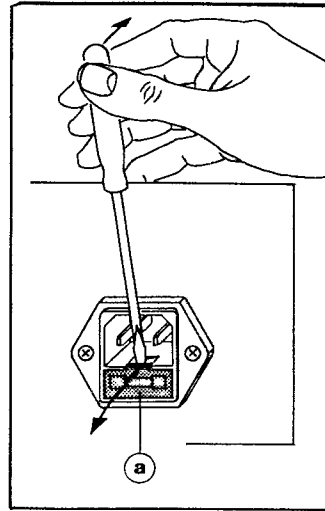

Fig. 7.1
- Take out insert ① (with holder for primary fuse ② and replacement fuse ③) using a suitable screw-driver — refer to Fig. 7.1.
Changing of the primary fuse is described in Section 4.1 (Figs. 7.1 and 7.2).